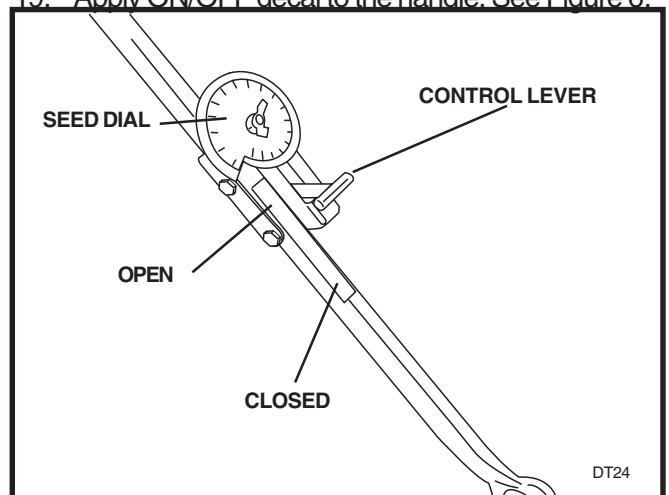

FIGURE 6
19. Apply ON/OFF decal to the handle. See Figure 6.